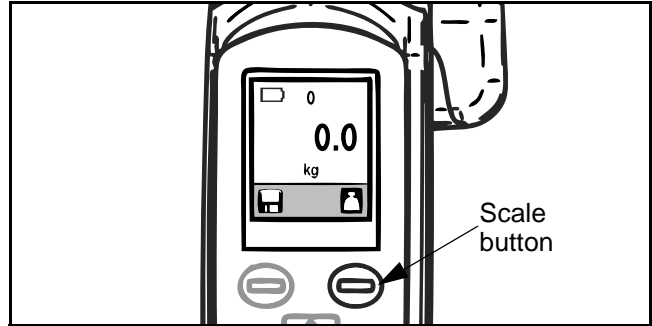

Fig. 65
- 1) Press the scale button to obtain a zero reading on the display (see Fig. 65).